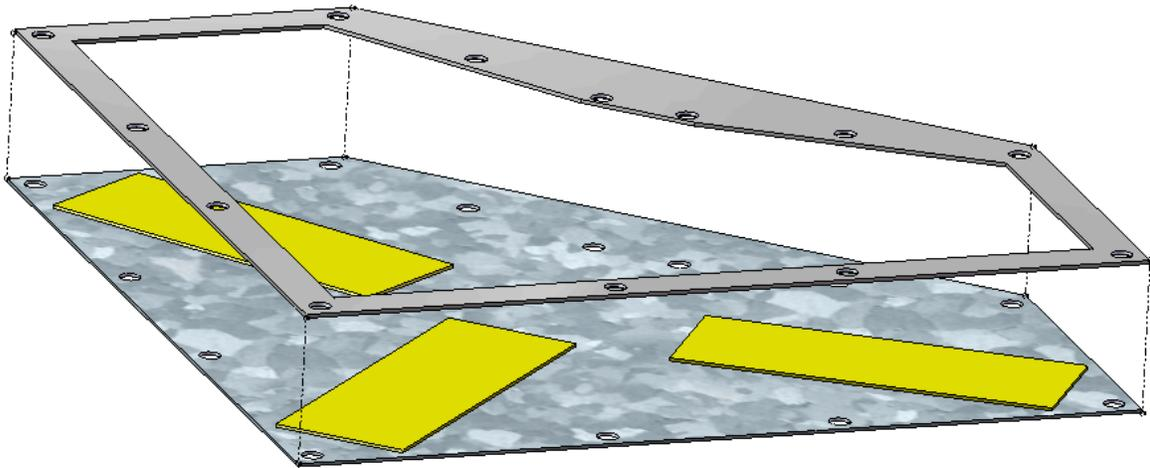

Figure 3-6: Vibrablock washer layer placed on top of cover
- 4) Peel back the clear plastic backing to expose adhesive side and place Vibrablock washer layer on top of the scale model cover. See Figure 3-6.